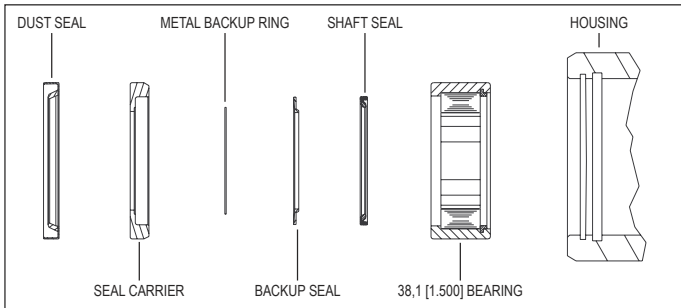

FIGURE 1
- H) Place housing (31) on a clean, flat surface with shaft end of housing facing up. Install high pressure seal (2) into groove in pilot of housing (18). Place shaft on a clean, flat surface with output end facing up. NOTE: If bearings were not removed from shaft, go to next step. Place thrust washer (16), thrust bearing (17) and second thrust washer (16) onto shaft (31). Place bearing spacer (15) onto shaft. Coat all parts of shaft bearing (14) in bearing grease and reassembly rollers into bearing (14). Making sure that side of bearing with snap ring faces up, lower bearing (4) onto shaft (31).
- I) Being careful not to cut seal on keyway, place shaft seal (5) over shaft (31) making sure that lip on seal faces down (See Figure 1). Repeat process for backup seal (4) making sure that lip faces down. Place metal backup shim (3) over shaft (31). With flat side facing up, place seal carrier (13) down over shaft. Using an arbor press, carefully press down on seal carrier (13) to press seal assembly (3-5) into seal carrier (13).
- J) Place shaft (31) assembly into housing (14). If necessary, gently tap downward on shaft with a rubber mallet. Install retaining snap ring (12) into groove in housing pilot (18). (NOTE: It may be necessary to lightly tap the retaining snap ring (12) to allow it to seat properly.) Using a clean rag, grasp shaft (31) and lift housing from work surface. Position housing/shaft assembly in vise with shaft facing down and secure motor in vise by clamping on to housing.
- K) Install housing seal (6) into groove in housing (18). Place drive link (21) into end of shaft (31) and gently tap downwards with rubber mallet to seat seal carrier (13) against retaining ring (12). Place thrust bearing (20) over drive link (21) and onto end of shaft (31). Place divider plate (22) onto housing (18) aligning bolt holes. Place body seals (7) in grooves in both sides of rotor (23). Place rotor (23) onto divider plate (22) with side of rotor with chamfer in splines facing divider plate (22). After engaging drive link splines, it may be necessary to rotate rotor (23) to align bolt holes. Place manifold (24) over rotor (23) with seal groove side up. Install manifold seal (8).
- L) Install the commutator seal (9) into the commutator (25) with the metal side facing up. Use finger pressure to press the seal down flush with the surface of the commutator. Place the commutator container onto the manifold (24) and then place the commutator onto the protruding end of the drive link (21) making sure that the seal side faces up.
- M)** Install the remaining body seal (7) in the groove in the face of the endcover (28). Install piston spring (27) into endcover (28), then the white backup seal (11) followed by the O-ring seal (10). Lining up the alignment pin with the hole in the endcover, press piston (26) into the endcover (28). While holding the piston (26) in the endcover, lower the endcover assembly onto the motor. Check to make sure that the endcover ports are in their original position.